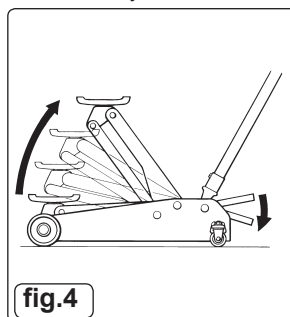

fig.4
- 5.2 Using the Jack with the Rocket Lift Pedal (fig.4)**